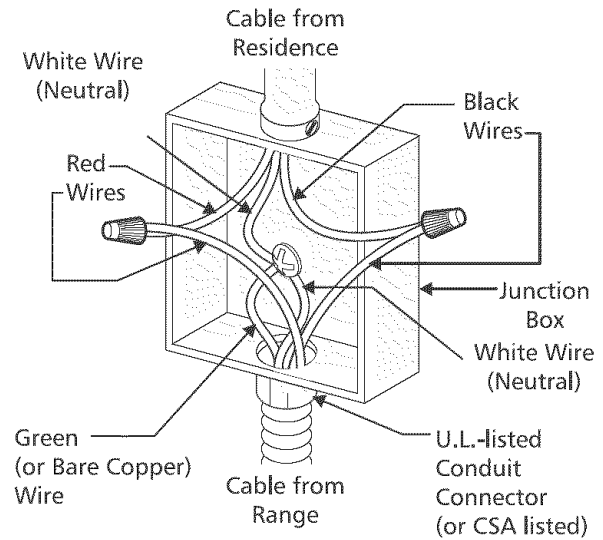

Figure 6
Where local codes permit connecting the appliance-grounding conductor to the neutral (white) wire (see Figure 6):
2. In the circuit breaker, fuse box or junction box connect the appliance and residence cable wires as shown in figure 6.